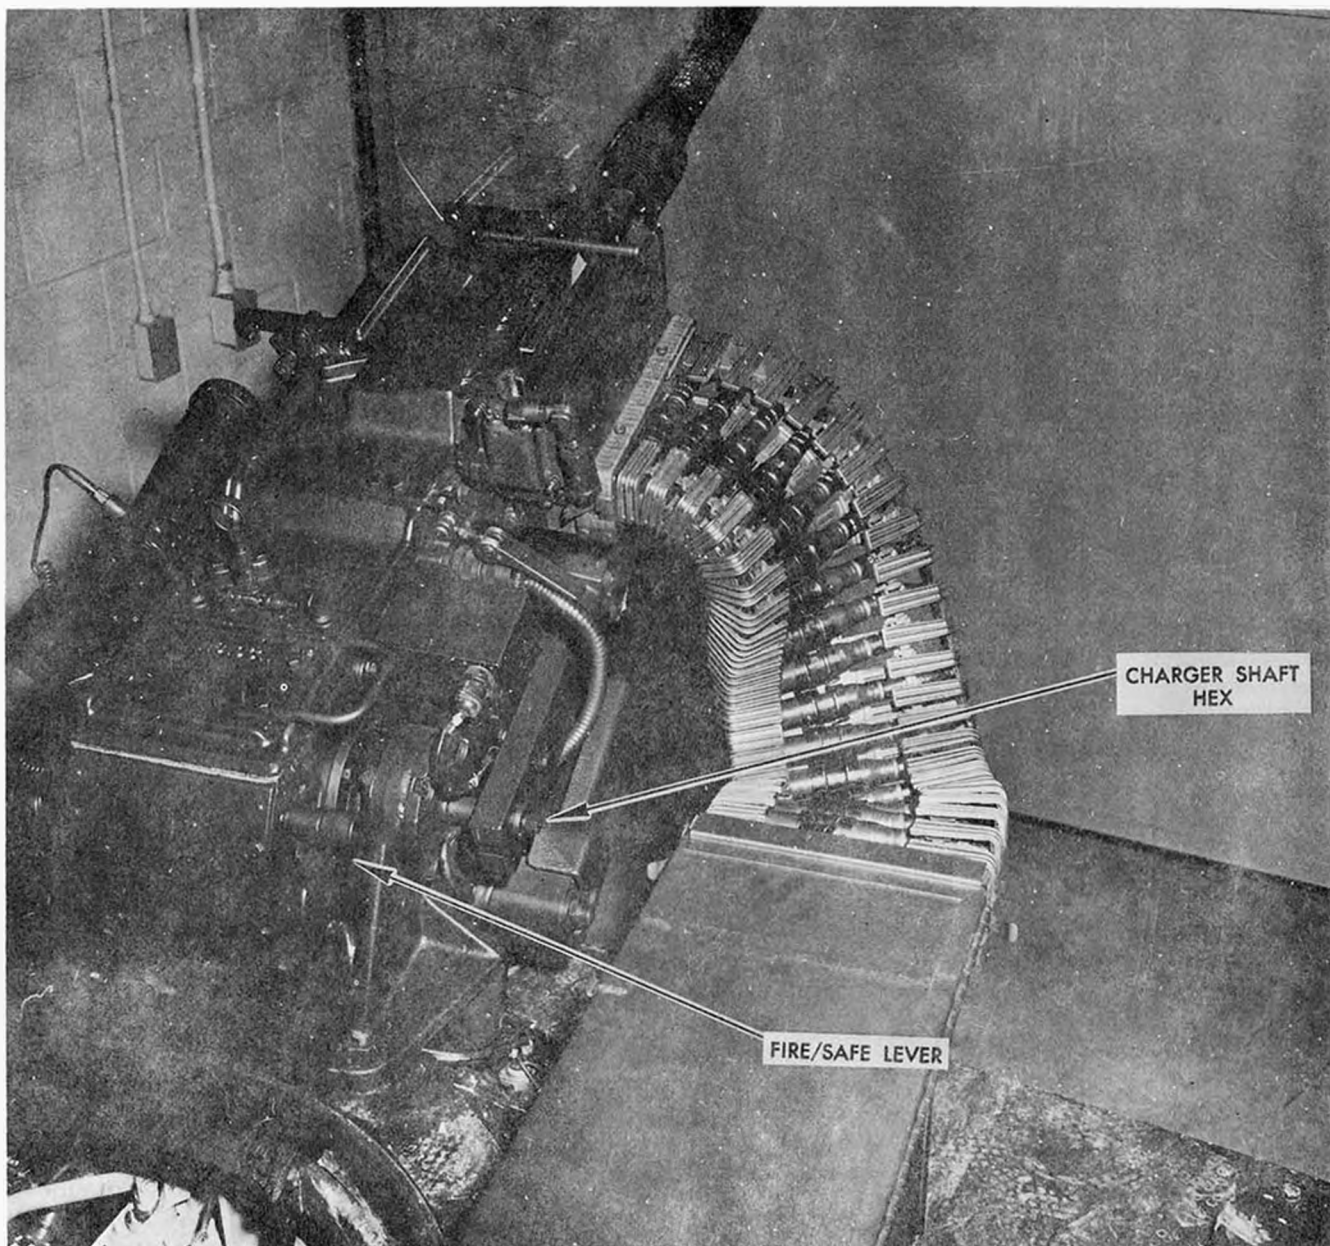

Figure 18. Charger shaft and FIRE/SAFE lever.
a. Move safety to SAFE position and open mount cover and feed cover (fig 18).
(1) To charge gun electrically, position CHARGER switch in NORMAL position and depress adjacent START button for approximately $\frac{1}{2}$ second.
(2) To charge gun manually, use ratchet wrench and ratchet charger shaft rearward as many times as necessary to catch bolt (fig 18). When bolt is caught by sear, a distinct click is heard, and charging should be continued until charger clog is in its most forward position. Do not attempt to charge weapon when safety lever is in SAFE position.